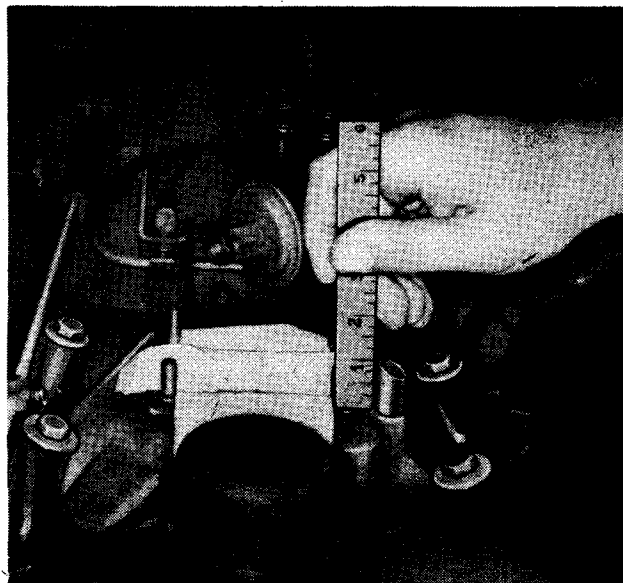

FIG. 4
6. Using a rawhide mallet, set the tube into place (Fig. 4) so that the end of the tube